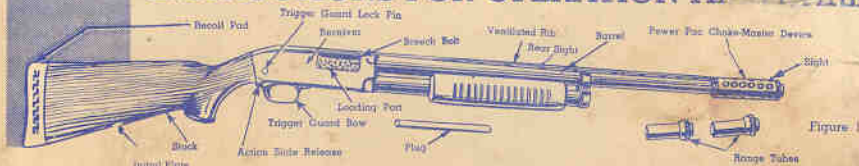

Figure 1
Gun is shipped, assembled as in Figure 1.
**TO LOAD BARREL:**—Open action fully by pulling back on fore-end. (Should gun be cocked, press in action slide release located on rear left side of guard bow. (See Figure 1.) Drop shell in loading port (See Figure 1.) Close action. Gun is now loaded and ready to fire.